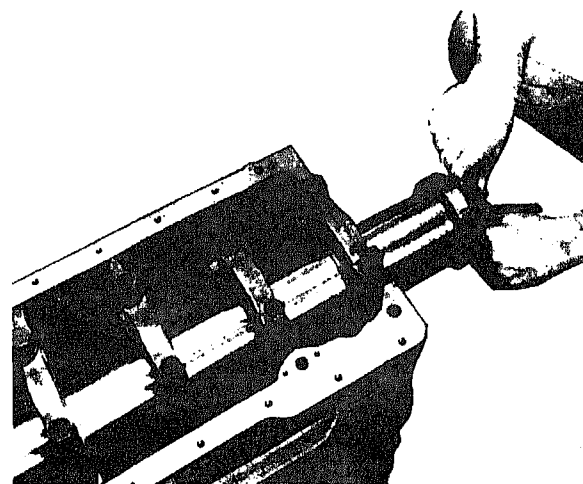

Fig. 1-1-11. Checking main bearing bore alignment
- This closely ground bar will pass through all bores and turn freely unless caps are not tightened to proper tension, burrs, etc., have not been removed, or caps are distorted, Fig. 1-1-11.